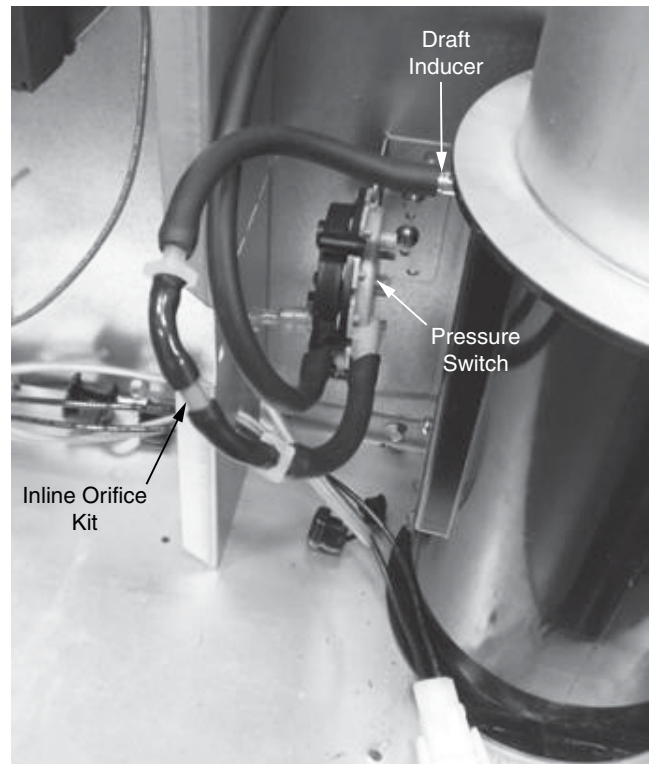

Figure 1. Pressure Switch Kit
2. Cut the ¼" black tubing from the silver pressure switch port on the draft inducer (in the middle). See Figure 1.